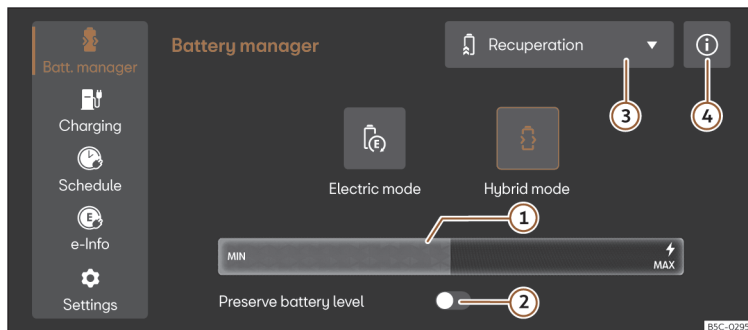

Fig. 117 In the infotainment system: Battery manager menu
- Select **Electric Mode** or **Hybrid Mode** in the infotainment system. Further information about the operating mode can be found in ① >>> **Fig. 117** ④.
Key to >>> **Fig. 117:**